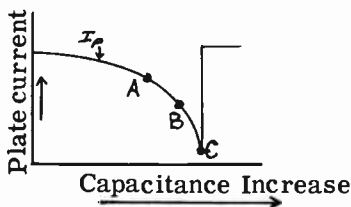

FIG. 12-15. CRYSTAL-OSCILLATOR, PLATE CURRENT TUNING CURVE.
**ADJUSTMENT OF A CRYSTAL CONTROLLED OSCILLATOR.** The most accurate way of adjusting a crystal-controlled oscillator for stable operation is to use a DC milliammeter in the plate circuit. When the plate tank circuit is tuned to the resonant frequency of the crystal, the plate current will drop to a low value. However, as we vary the tuning to either side of the resonance point, the rise in plate current on both sides of the resonance point is not uniform. Note in Fig. 12-15, that, as the tuning capacitance